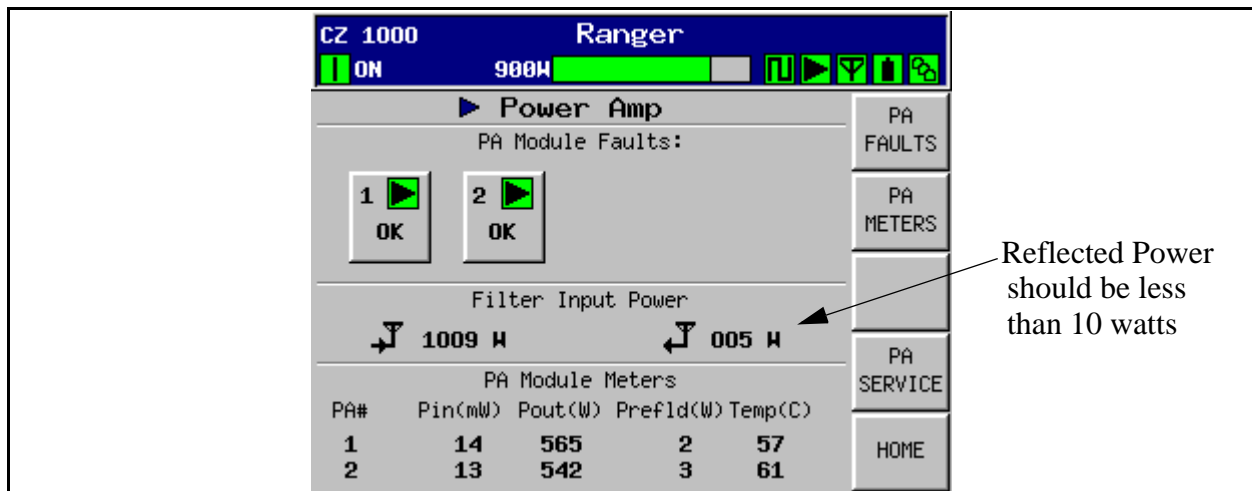
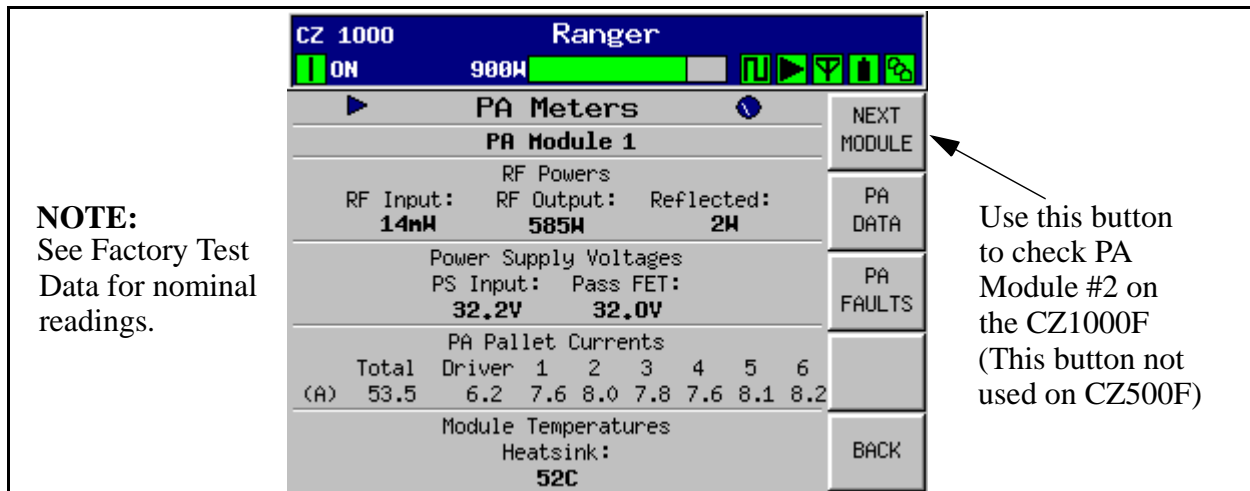

Figure 2-12 Power Amp Main Menu
Figure 2-13 PA Meters Screen
- Press the transmitter ON button.** Make sure the PA PS reading is close to 32Vdc. Next, go to the Power Amp screen shown in Figure 2-12.
- All PAs should show a green (OK) status on the GUI (Power Amp screen).
- Monitor the PA Meters screen shown in Figure 2-13. This screen can be accessed by pressing the PA Meters button on the Power Amp screen in Figure 2-12.